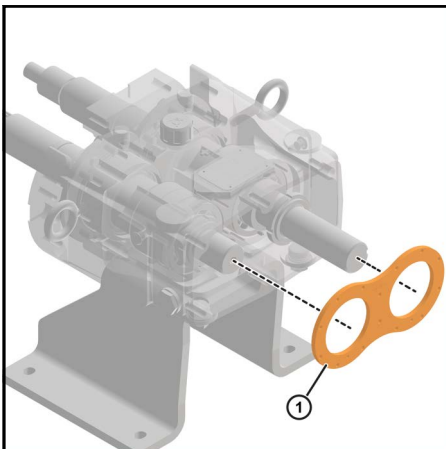

Figure 263 - Remove rear bearing retainer
2. Remove the rear bearing retainer (1) as shown in Figure 263.